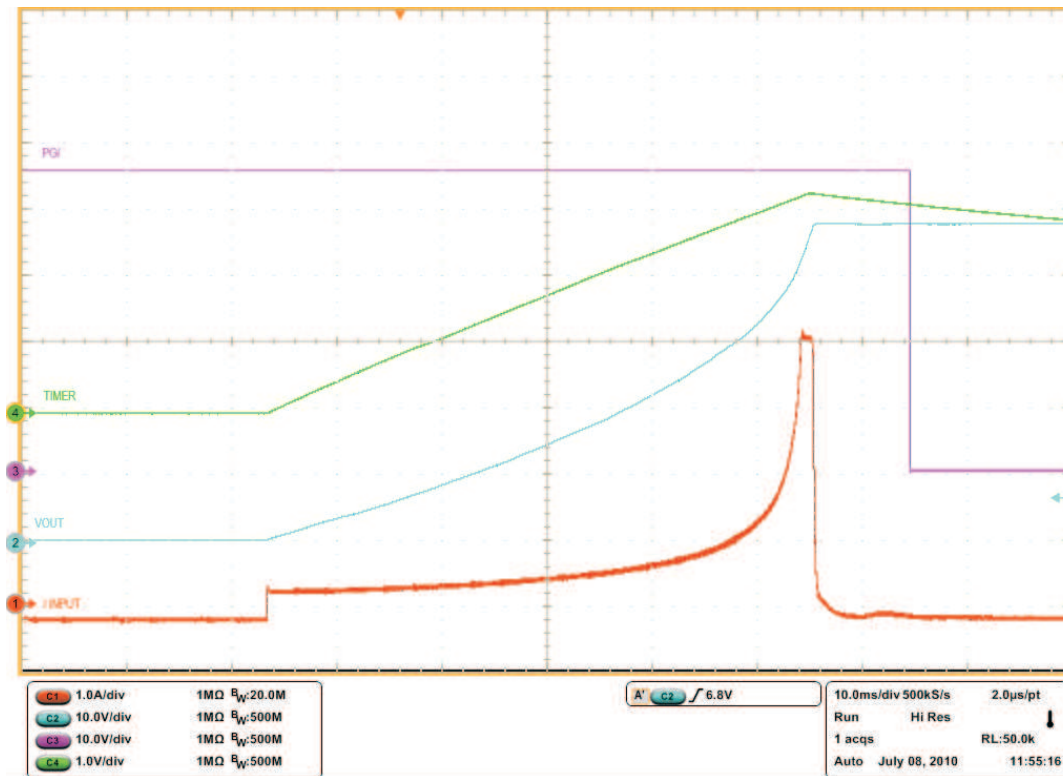
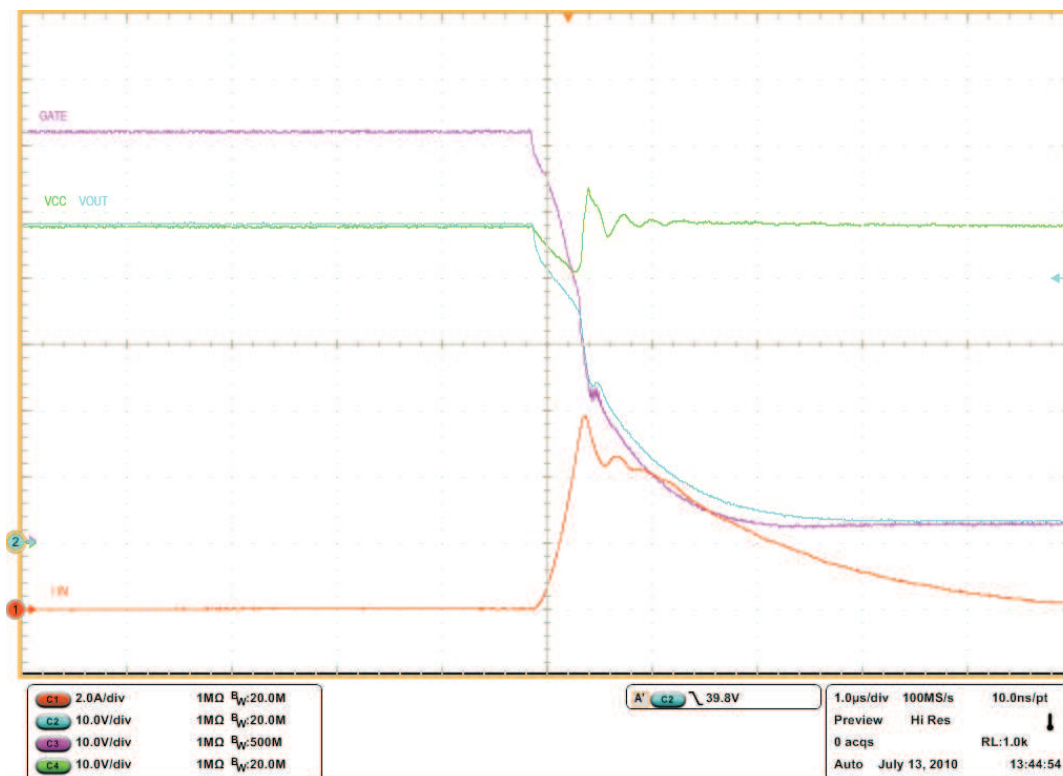

Figure 13. Basic Board Insertion
Figure 17. Current Limit Onset
A capacitor may be tied from PROG to ground to alter the natural constant power inrush current shape. If properly designed, the effect is to cause the leading step of current in Figure 13 to look like a ramp. It is not recommended that this mechanism be used to achieve a long and low ramp inrush current because the power limiting accuracy is lower at  $V_{\text{PROG}} < 0.4$  V. PROG is internally pulled to ground whenever UVEN, POR, or UVLO are not satisfied or the TPS2492 is latched off. This feature serves to discharge any capacitance connected to the pin. Do not apply voltages greater than 4 V to PROG. If the constant power limit is not used, PROG should be tied to VREF through a 47-k $\Omega$  resistor.
The TPS2492/93 features power-limiting FET protection that allows independent control of current limit (to set maximum full-load current), power limit (to keep FET in its safe operating area), and overload time (to control temperature rise). The power limiting feature controls the  $V$  and  $I$  across the FET to protect it, and does not control load power. This protection is a specialized form of foldback output limiting. Given a constant power dissipation, computation of peak junction temperature is straight forward. The TPS2393 provides a small operating duty cycle into a short, reducing the average temperature rise of the FET to levels similar to normal operation in many systems. This prevents overheating and failure with prolonged exposure to an output short. The typical application circuit, and oscilloscope plots of Figure 13 and Figure 17 demonstrate many of the functions described above.
### Board Plug-In (Figure 13)
Only the bypass capacitor charge current and small bias currents are evident when a board is first plugged in as seen in Figure 13. The TPS2492/93 is held inactive with GATE, PROG, and TIMER held low, and with  $\overline{PG}$  and  $\overline{FLT}$  open drain, for less than 1 ms while internal voltages stabilize. Then GATE, PROG, TIMER,  $\overline{FLT}$  and  $\overline{PG}$  are released and the part begins sourcing current to the GATE pin because UVEN is high and OV is low. The external FET begins to turn on while the voltage across it,  $V_{(SENSE-OUT)}$ , and current through it,  $V_{(VCC-SENSE)}/R_{SENSE}$ , are monitored. Current initially rises to the value which satisfies the power limit engine ( $P_{LIM}/V_{VCC}$ ) since the output capacitor was discharged. The shape of the input current waveform shows the operation of the FET power limit. In this case, the 5-A current limit is never reached as the output reaches full charge. This is likely due to the limited gate slew rate.
### TIMER and $\overline{\text{PG}}$ Operation (Figure 13)
The TIMER pin charges  $C_T$  as long as limiting action continues, and discharges at a 1/10 charge rate when limiting stops. If the voltage on  $C_T$  reaches 4 V before the output is charged, the external FET is turned off and either a latch-off or restart cycle commences, depending on the part type. The open-drain  $\overline{\text{PG}}$  output provides a deglitched end-of-charge indication which is based on the voltage across the external FET.  $\overline{\text{PG}}$  is useful for preventing a downstream DC-to-DC converter from starting while  $C_O$  is still charging.  $\overline{\text{PG}}$  goes active (low) about 9 ms after  $C_O$  is charged. This delay allows the external FET to fully turn on and any transients in the power circuits to end before the converter starts up. The resistor pull-up shown on pin  $\overline{\text{PG}}$  in the Typical Application Circuit only demonstrates operation; the actual connection to the converter depends on the application. Timing can appear to terminate early in some designs if operation transitions out of the power limit mode into a gate charge-rate limited mode at low  $V_{\text{DS}}$  values. This effect sometimes occurs because gate capacitances,  $C_{\text{GD}}$  and  $C_{\text{GS}}$ , are nonlinear with applied voltage, getting larger at smaller voltage. This can be seen in Figure 13.
The calculated power dissipated in the external FET,  $V_{DS} \times I_D$ , is computed under the same startup conditions as Figure 13. The current of the external FET, labeled  $I_{IN}$ , initially rises to the value that satisfies the constant power engine; in this case it is  $25\text{ W} / 48\text{ V} = 0.52\text{ A}$ . The 25-W value is programmed into the engine by setting the PROG voltage using R4 and R5.  $V_{DS}$  of the external FET, which is calculated as  $V_{(SENSE-OUT)}$ , falls as  $C_O$  charges, thus allowing the external FET drain current to increase. This is the result of the internal constant power engine adjusting the current limit reference to the GATE amplifier as  $C_O$  charges and  $V_{DS}$  falls. The calculated device power in Figure 14, labeled POWER, is seen to be reasonably constant within the limitations of circuit tolerance and acquisition noise. A fixed current limit is implemented by clamping the constant power engine output to 50 mV when  $V_{DS}$  is low. This protection technique can be viewed as a specialized form of foldback limiting; the benefit over linear foldback is that it yields the maximum output current from a device over the full range of  $V_{DS}$  while still protecting the device.
**Response to a Hard Output Short (Figure 15, Figure 16, and Figure 17)**
The TPS2492/93 responds rapidly to a short circuit as seen in Figure 17. The falling OUT voltage is the result of the external FET and  $C_O$  currents through the short circuit impedance. The internal GATE clamp causes the GATE voltage to follow the output voltage down and subsequently limits the negative  $V_{GS}$ . The  $I_{IN}$  waveform includes current into an input 47  $\mu\text{F}$  capacitor. M1 drain current has a peak value in excess of the waveform, and terminates when  $V_{GATE}$  approaches  $V_{OUT}$ . The rapidly rising fault current overdrives the GATE amplifier causing it to overshoot and rapidly turn the external FET off by sinking current to ground. At a time beyond the extent of Figure 17, but within the scope of Figure 15, the FET will be slowly turned back on as the GATE amplifier recovers. The operating point will settle to the current or power limit, and finally the TIMER will expire and the FET will turn off.
Limited input voltage overshoot appears in Figure 17 because a local 47- $\mu\text{F}$  bypass capacitor and 1000  $\mu\text{F}$  distribution capacitor were used. The input voltage overshoots as the input current abruptly drops due to the stored energy in the input wiring inductance. The exact waveforms seen in an application depend upon many factors including parasitics of the voltage distribution, circuit layout, and the short itself.